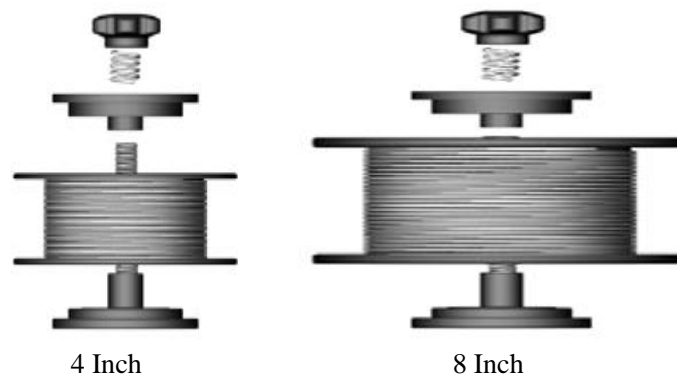

Figure 5
- 5.2.5 The welder can use either 4 inch or 8 inch spools. See Figure 5 for additional reference. The wing nut controls the tension on the spool.